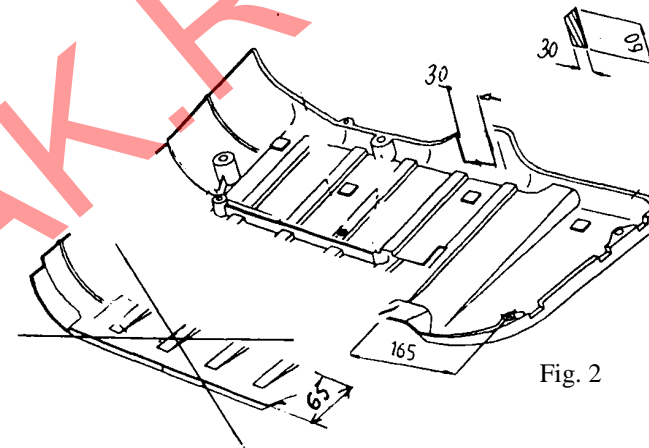

Fig. 2
- Drill again holes only from inside boot using bit  $\varnothing 22\text{mm}$ . To drilled holes put distance sleeves  $\varnothing 22$ ,  $L=37\text{mm}$  (pos. 9), and top put fish-plates (pos. 6) as shown on the drawing. Insert bolts  $M10 \times 70\text{mm}$  (pos. 12).
- On prominent bolt put main bar of the towbar (pos. 1) and fix loosely.
- Fix side brackets (pos. 4 and 5) as show on the drawing using bolts  $M10 \times 35\text{mm}$  (pos. 13) through holes A. Fix by bolts  $M10 \times 35\text{mm}$  (pos. 13) through holes B with jibs (pos. 7 and 8). Jibs place inside chassis frames through longitudinal holes.
- Fix body of the automat (pos. 14) and the socket plate (pos. 3) using bolts  $M12 \times 25\text{mm}$  (pos. 11) from accessories. Place tow-ball (pos. 2) according to supplied instruction.
- Reassemble the cover after cut fragment as shown on figure 2.